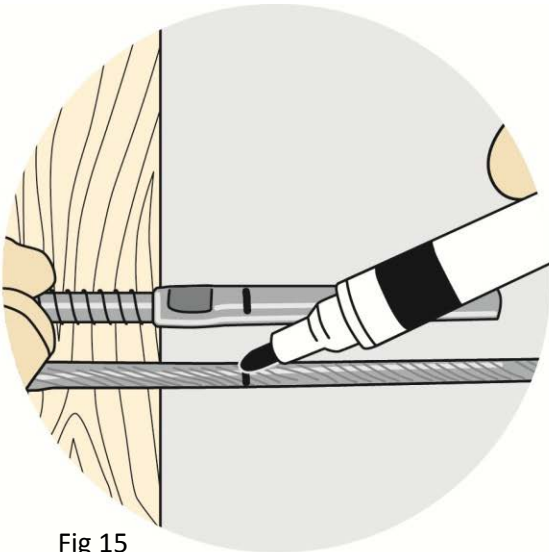
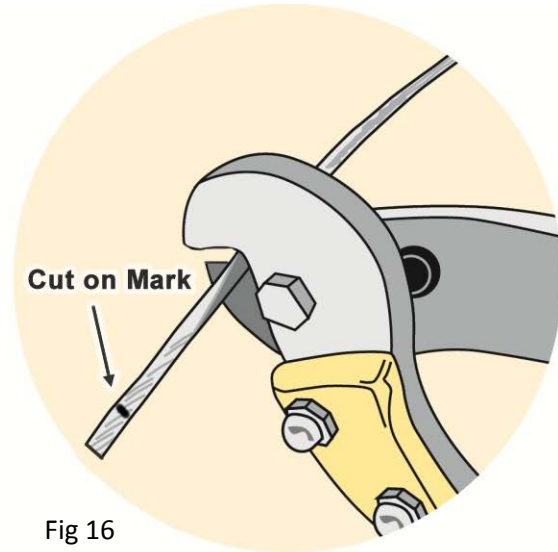

Fig 15
Fig 16
- Position the Swage Lag End on the inside face of the post, pull all slack out and hold cable adjacent to the Swage Lag End. Mark the cable where it matches mark on the Swage Lag End (Fig. 15). Cut cable to its final length (Fig. 16).
- Cut cable to its final length (Fig. 16).